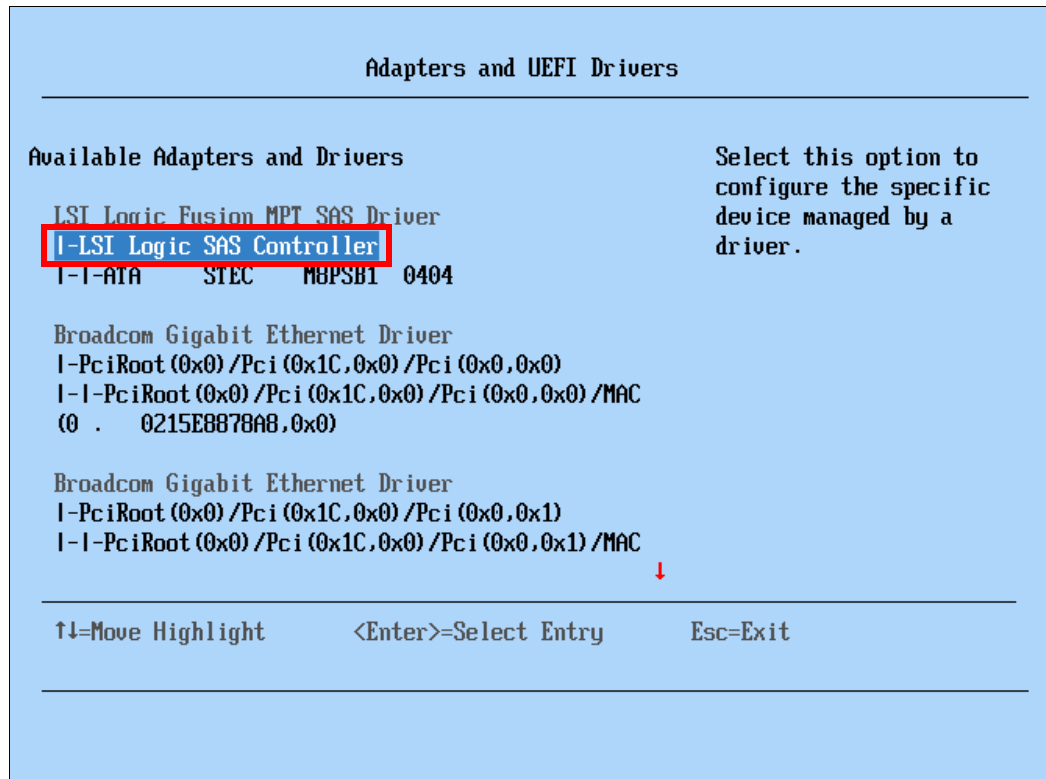

Figure 8-18 Adapter list in UEFI
4. Select **LSI Logic SAS Controller** and press Enter, as shown in Figure 8-18.